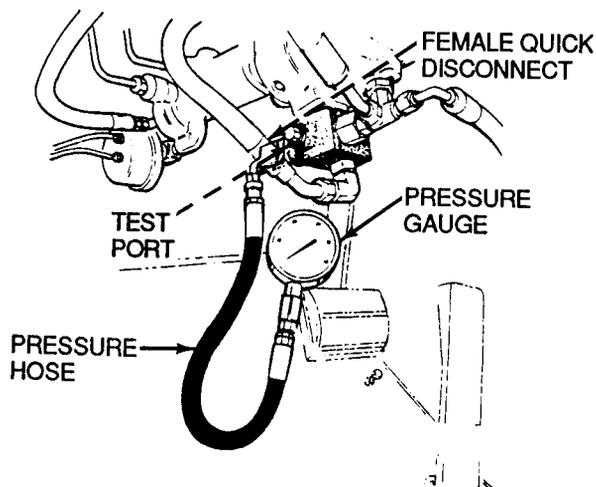

Figure 13-2
3. Install a 0-4,000 psi (0-27,580 kPa) gauge equipped with a short pressure hose and 1/4 in. female quick disconnect on test port (Figure 13-2).